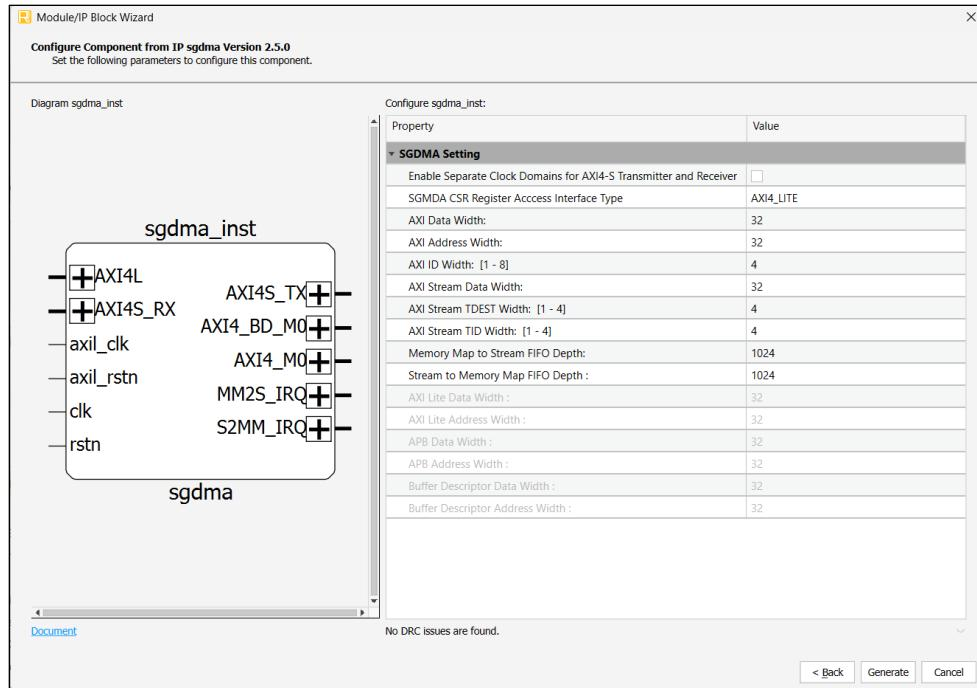

Figure 7.2. IP Configuration
3. In the next **Module/IP Block Wizard** window, customize the selected SGM DMA Controller IP using drop-down lists and check boxes. Figure 7.2. IP Configuration shows an example configuration of the SGM DMA Controller IP. For details on the configuration options, refer to the IP Parameter Description section.